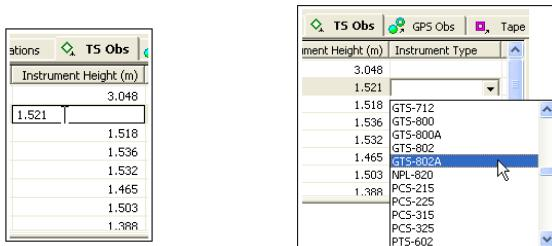

Figure 5-77. Editable Instrument Cells in Tabular View
2. Click a highlighted cell and edit the desired information (Figure 5-77).